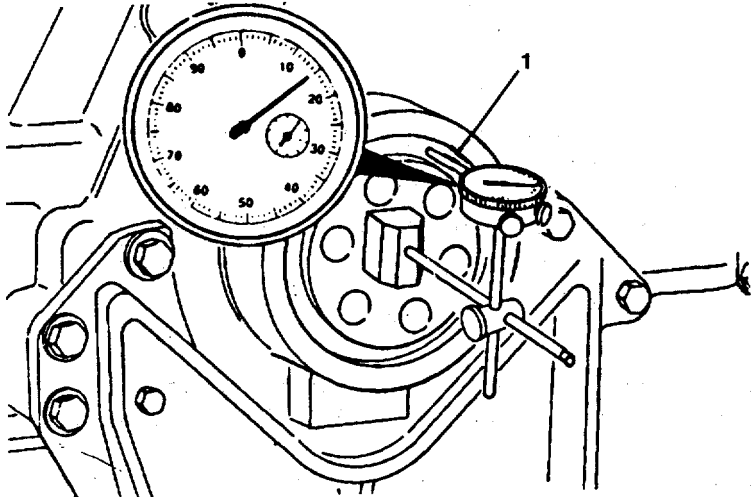
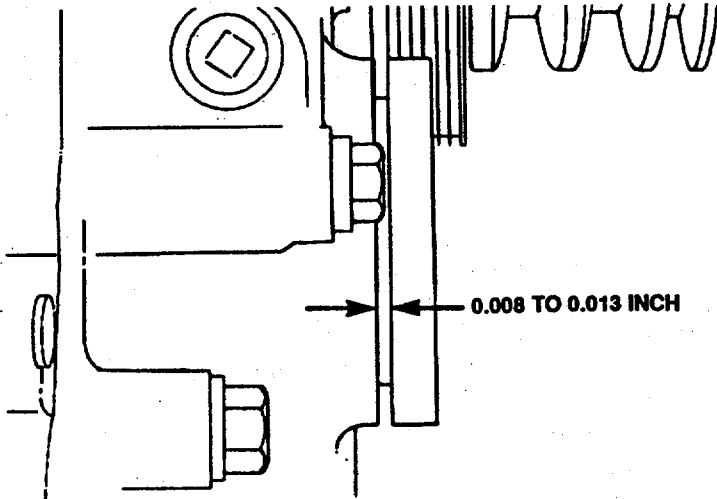

FIGURE 3-51. Dial Indicating Crankshaft Face.
FIGURE 3-52. Gear Cover/Flange Clearance.
- e. Mount a dial indicator on the front face of the crankshaft. Put the indicator plunger (FIGURE 3-51) against the oil seal bore, and set the dial indicator at "0" (zero).
- (1) Install the support bearing in the bore of the gear cover. Do not install the preformed packing on the support at this time.
- (2) Push the support against the camshaft so the camshaft gear rests against the camshaft thrust washer.
- (3) Hold the support against the camshaft, and use a feeler gauge to measure the space between the gear cover flange and the support bearing (FIGURE 3-52).